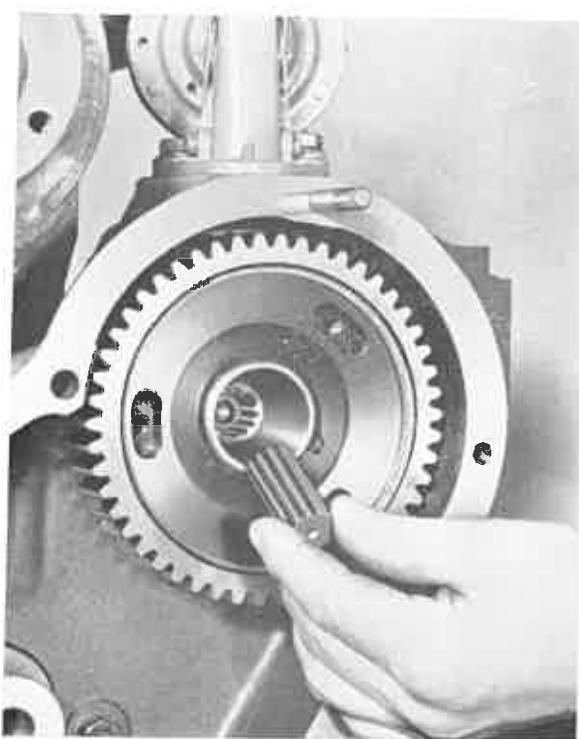

Fig. N.8. Removing Quill Shaft.
4. Remove the fuel pump quillshaft (See Fig. N.8).